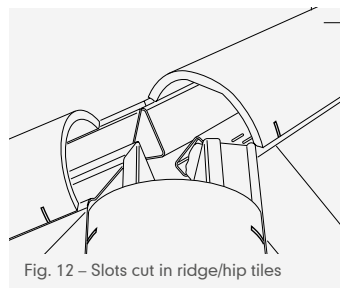

Fig. 12 – Slots cut in ridge/hip tiles
- 24 Place purpose-made apex cap suitable for roof pitch, over uppermost ridge/hip tiles, and mark position of two cut out slots at lower edges. Remove cap and cut a small corresponding slot in hip/ridge tile, maximum 5mm deep (Fig. 12).